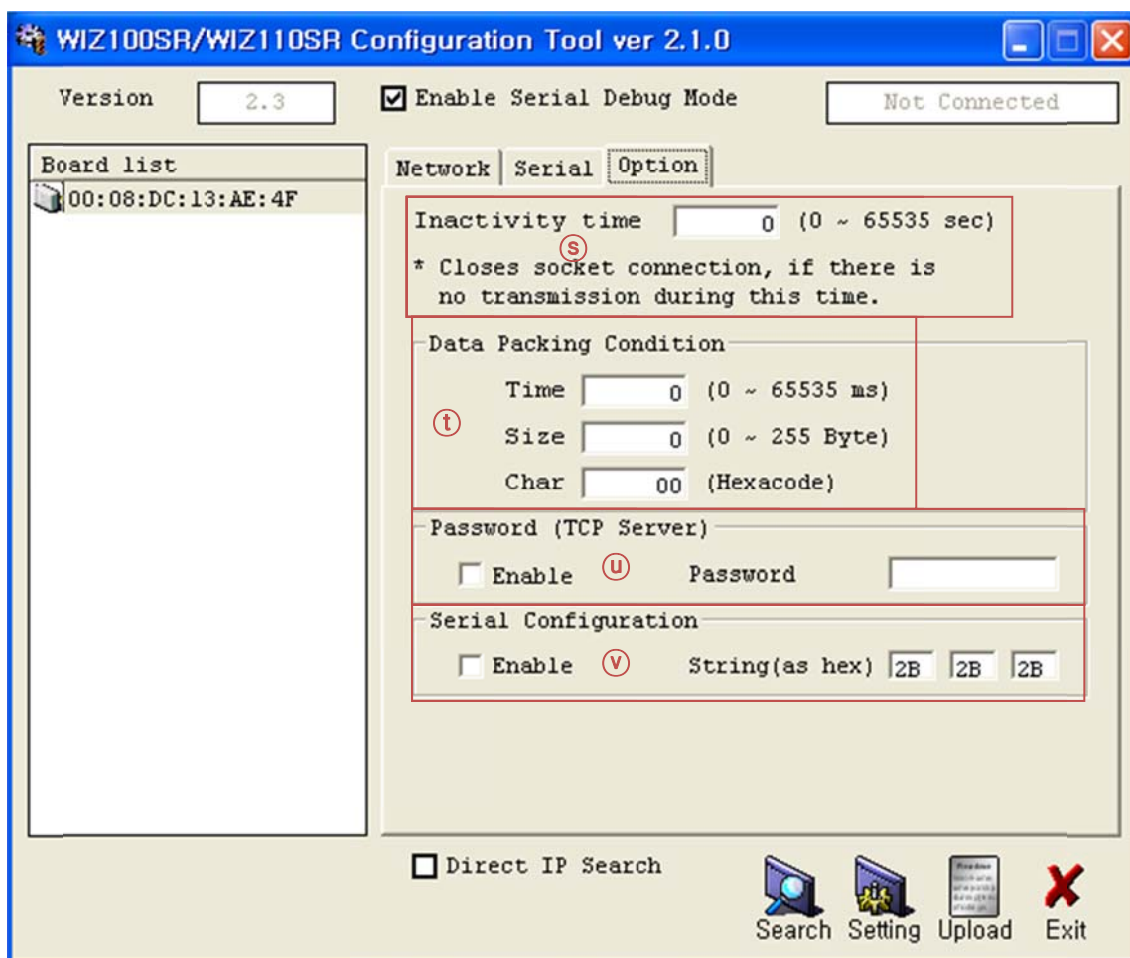

Figure 8. Configuration Tool (Option Config.)
3. As shown in Figure 8, select Option tab and check 'Enable' combo box of "Password" menu.
⑤ Serial Configuration: